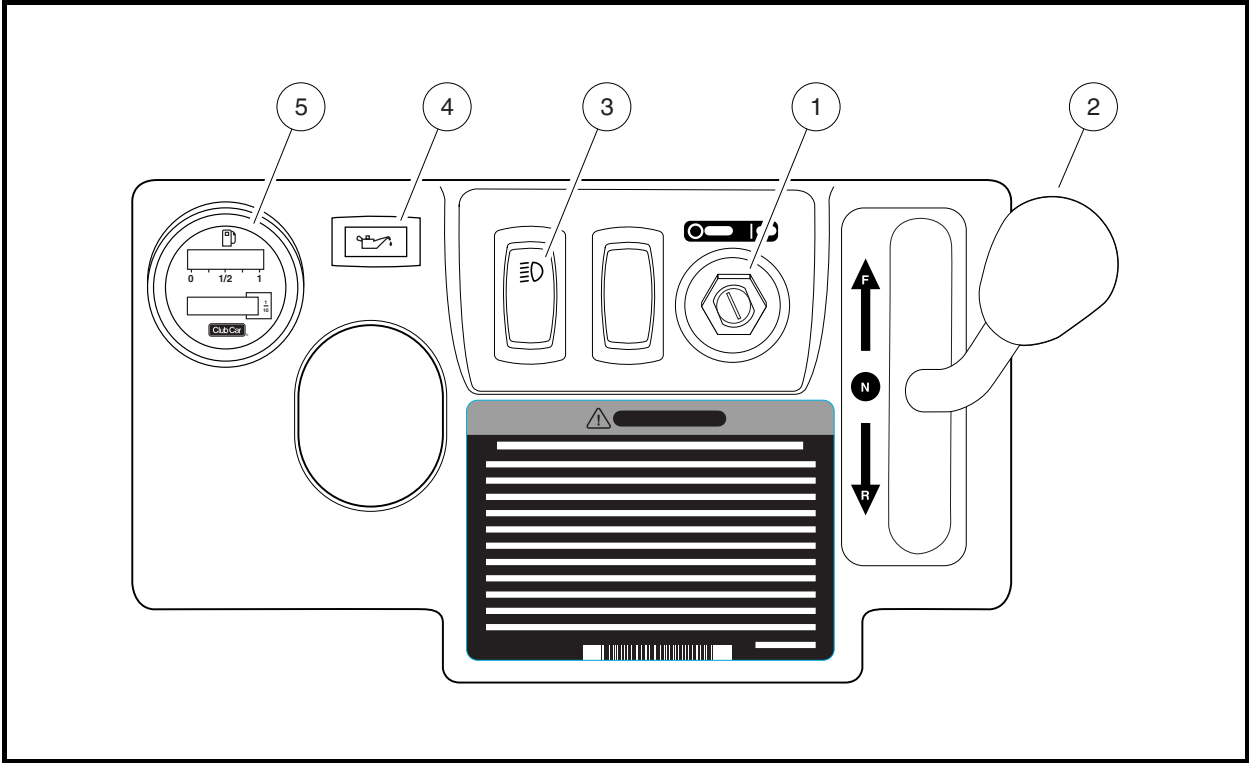
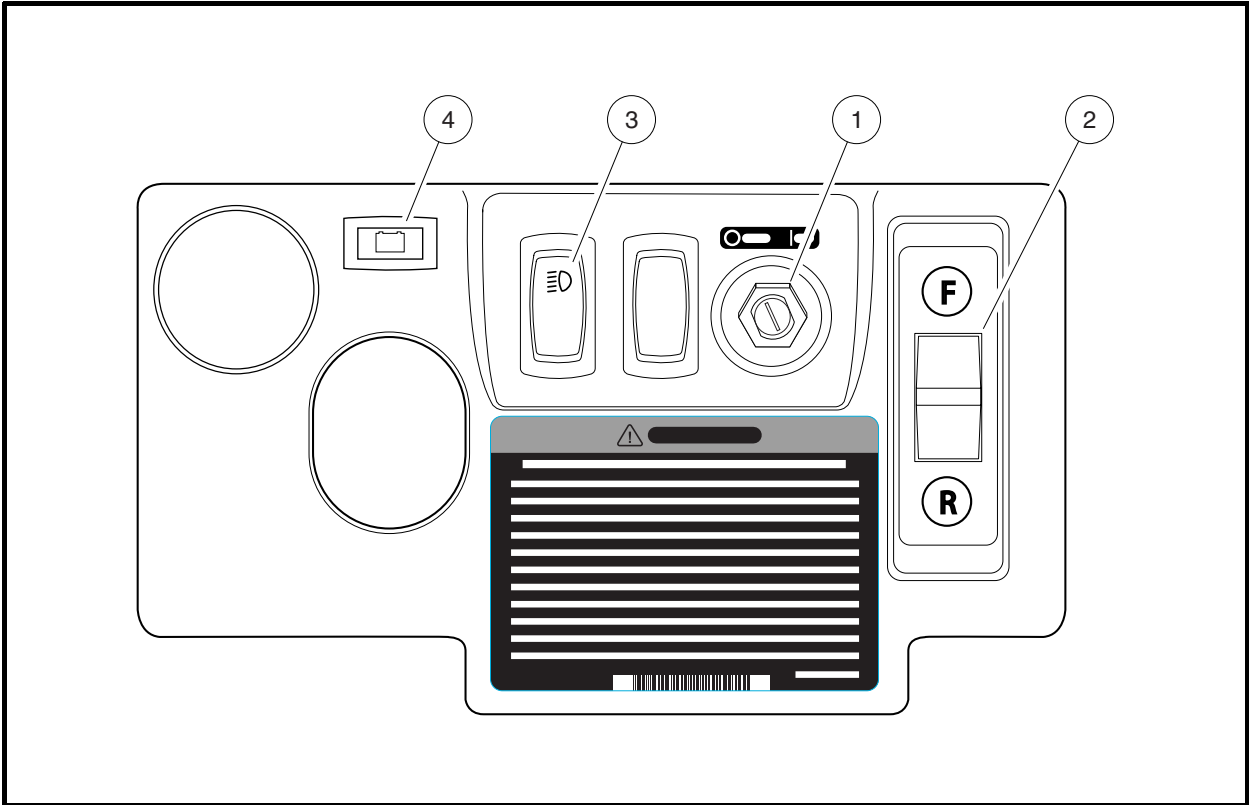

Figure 4 Instrument Panel – Gasoline Vehicles
Figure 5 Instrument Panel – Electric Vehicles
The key switch (1) is mounted on the dash to the right of the steering column (**Figure 4** or **Figure 5**). It has two positions, OFF and ON, which are clearly labeled. **See following NOTE**
The Forward/Reverse handle (2) is located on the right-hand side of the instrument panel (**Figure 4**). The handle has three distinct positions: **F** (FORWARD), **N** (NEUTRAL), and **R** (REVERSE). Push the handle up to operate the vehicle in the forward direction, or pull the handle down to operate the vehicle in reverse. Club Car vehicles operate at reduced speed in reverse. The reverse buzzer will sound as a warning when the Forward/Reverse handle is in the REVERSE position.
The Forward/Reverse rocker switch (2) is located on the right-hand side of the instrument panel (**Figure 5**). The **F** (FORWARD) and **R** (REVERSE) positions are clearly marked. Press the FORWARD side of the switch to operate the vehicle in the forward direction, or press the REVERSE side of the switch to operate the vehicle in reverse. When the rocker switch is positioned in NEUTRAL, with neither side down, the vehicle will not operate if the accelerator pedal is pressed. The reverse buzzer will sound as a warning when the Forward/Reverse switch is in the REVERSE position.
The headlight switch (3) is located on the instrument panel to the right of the steering column (**Figure 4** or **Figure 5**). Press the side of the switch with the headlight symbol to turn the headlights on and press the other side to turn the headlights off.
The gasoline vehicle is equipped with a low oil warning light (4), located on the instrument panel just above the steering column (**Figure 4**). If the warning light comes on, oil should be checked and added to the engine as necessary before continuing to use the vehicle. The vehicle should never be driven when the low oil warning light remains on. If the warning light goes on and off, the vehicle may be driven, but oil should be added at the first opportunity. If the oil level is correct and the warning light stays on, have a trained technician check the vehicle.
The gasoline vehicle is equipped with a fuel gauge/hour meter (5), located on the instrument panel (**Figure 4**). The fuel gauge allows the operator to monitor the fuel level in the vehicle. The hour meter should be used by the trained technician to track vehicle usage and determine when periodic service procedures are required. **See Periodic Service Schedule on page 29.**
Electric vehicles feature a dash mounted warning light (4) (above steering column) that, when the vehicle is in operation, indicates low battery voltage or, when the vehicle is being charged, indicates a charging problem (**Figure 5**). The battery warning light is controlled by the onboard computer.